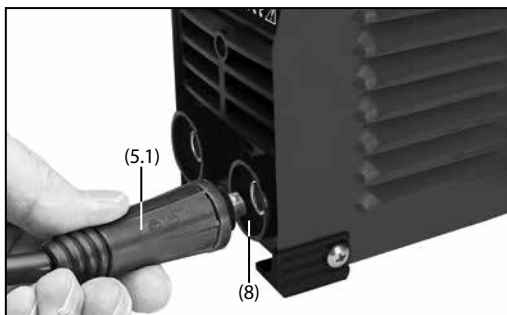

FIG. 1
6.2 CONNECTING THE EARTH CLAMP – FIG.1
- With the lug on the pin at top, push the connector (5.1) fully into the right-hand (–) port (8) then turned clockwise 180° to lock, hand tight only.